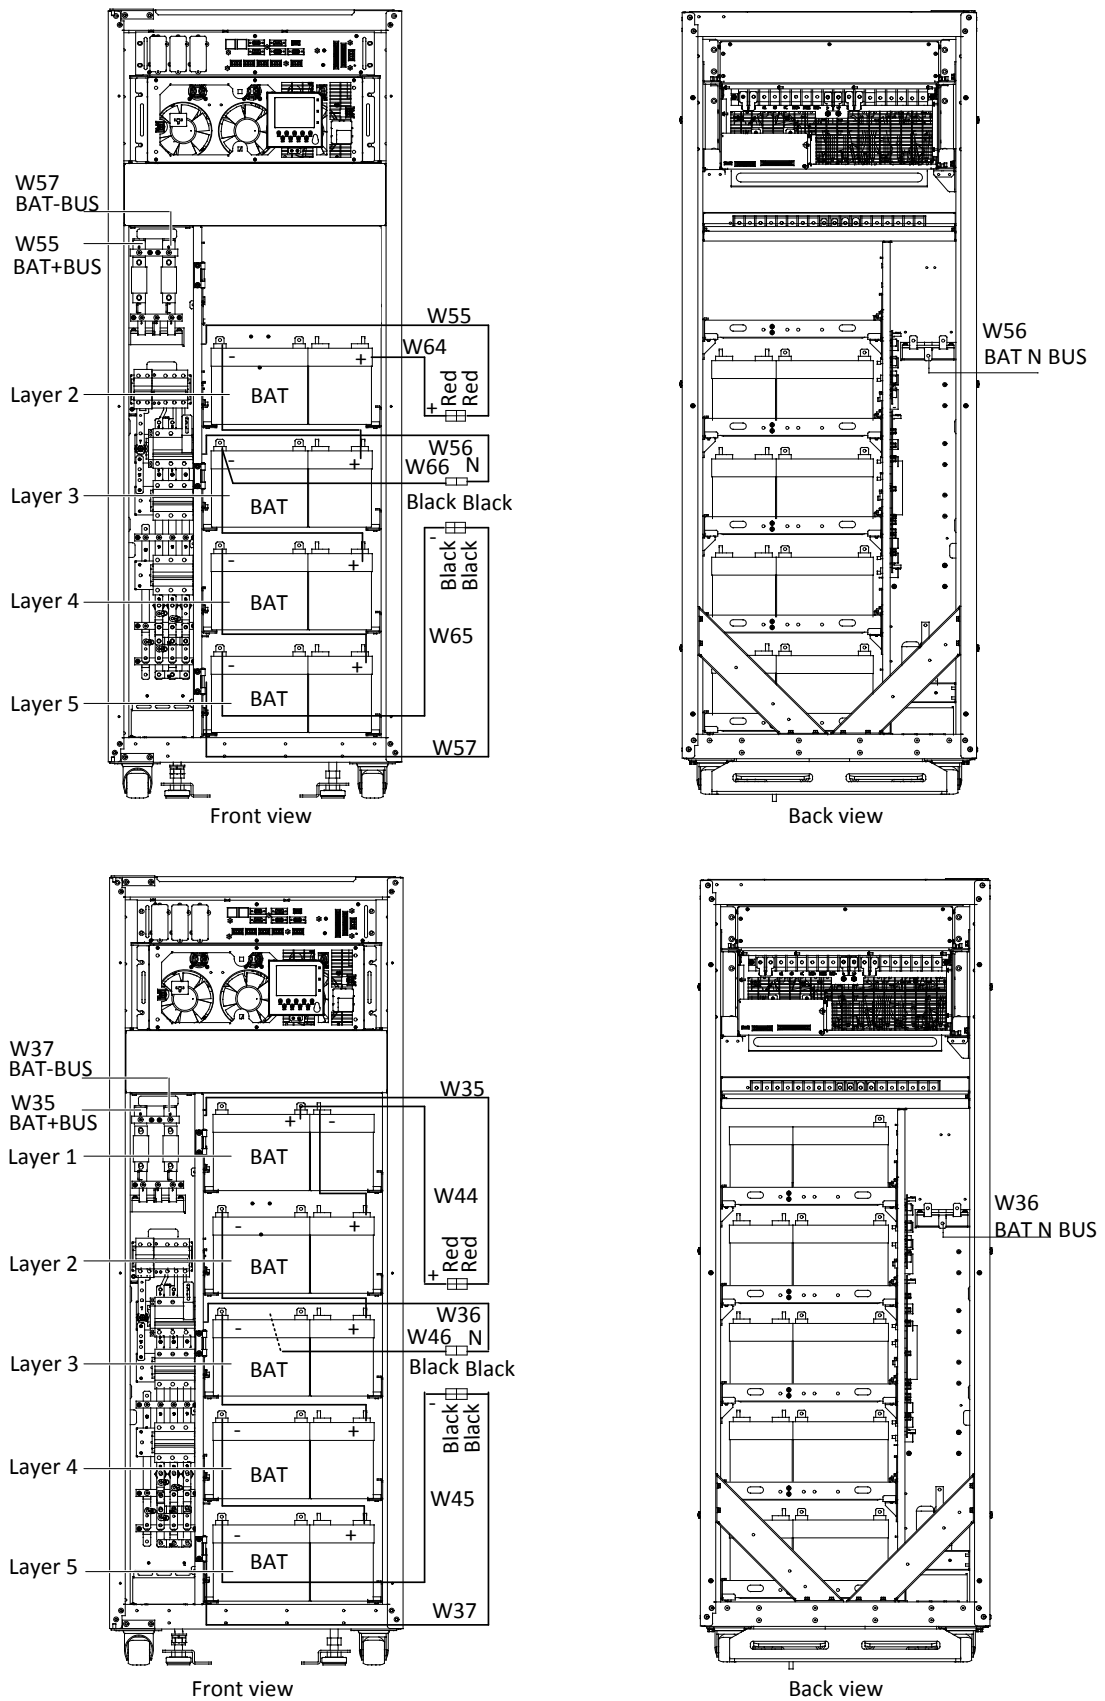

Figure 8-8 Connection between battery trays and batteries
5. According to Figure 8-8, insert the trays with batteries installed into the battery compartment one by one, and ensure the No.1 ~ No.5 battery trays correspond to No.1 ~ No.5 layers (from top to bottom) of the battery compartment, otherwise the battery voltage may be abnormal.
8. According to Figure 8-8, connect the positive terminal of battery tray 1 to cabinet positive terminal; connect the neutral line terminal of battery tray 3 to cabinet neutral line terminal, and connect the negative terminal of battery tray 5 to cabinet negative terminal. Use the multimeter to measure voltages between battery terminals (+, -, N), so as to verify that the cable connection is correct.
5. Wiring according to Figure 8-8, pack the cables in order. Note that the cables should be routed separately from the power cables, to avoid EMI.